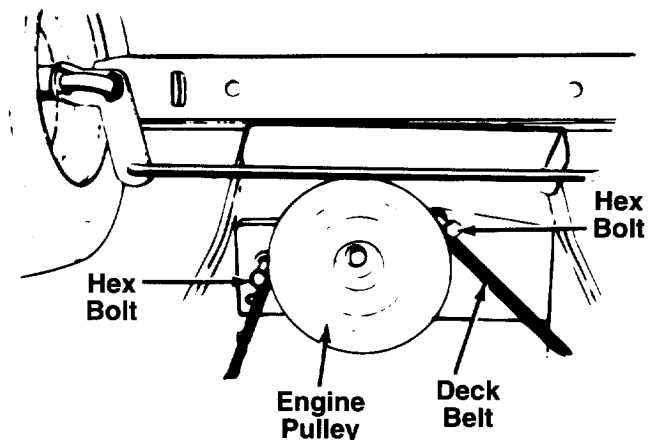

FIGURE 15.
NOTE: *Figures 15, 18 and 19 are shown with the unit tipped up for clarity. It is not necessary to tip the unit to remove the belts.*
2. Remove the two hex bolts (belt keepers) from the engine pulley belt guard. See figure 15.
NOTE: *Make certain hex bolts are reassembled as shown in figure 15.*